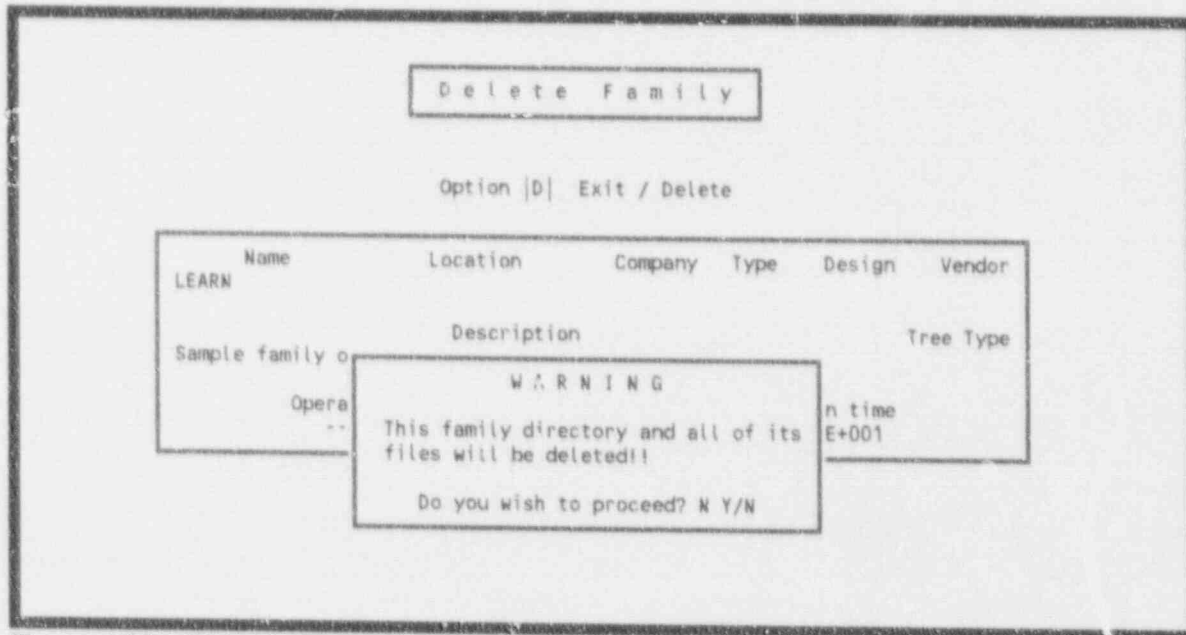

Figure 158. Warning screen for a family delete.
**7.2.4.2 Delete.** This option verifies the delete family request. To invoke this option, type <D> in the option field and press <Enter>. A warning screen is superimposed over the Delete Family screen allowing you to cancel the deletion process (Figure 158). Enter a <Y> to delete the family or an <N> to terminate the deletion process. If you respond with a <Y>, the message **Deletion completed** will be displayed at the bottom of the screen.